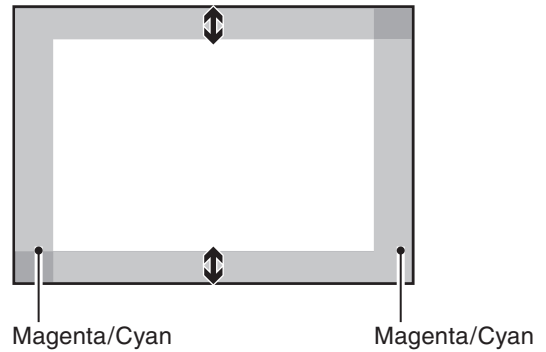

Fig.1-6
- 2) Insert a slot driver into the slot **M** and turn it to move the image vertically as shown in **Fig.1-6**.
- 3 Tighten the screws **J** and **L** to fix the relay lens (R) assy.
- 2) Insert a slot driver into the slot **D** and turn it to move the image vertically as shown in **Fig.1-6**.